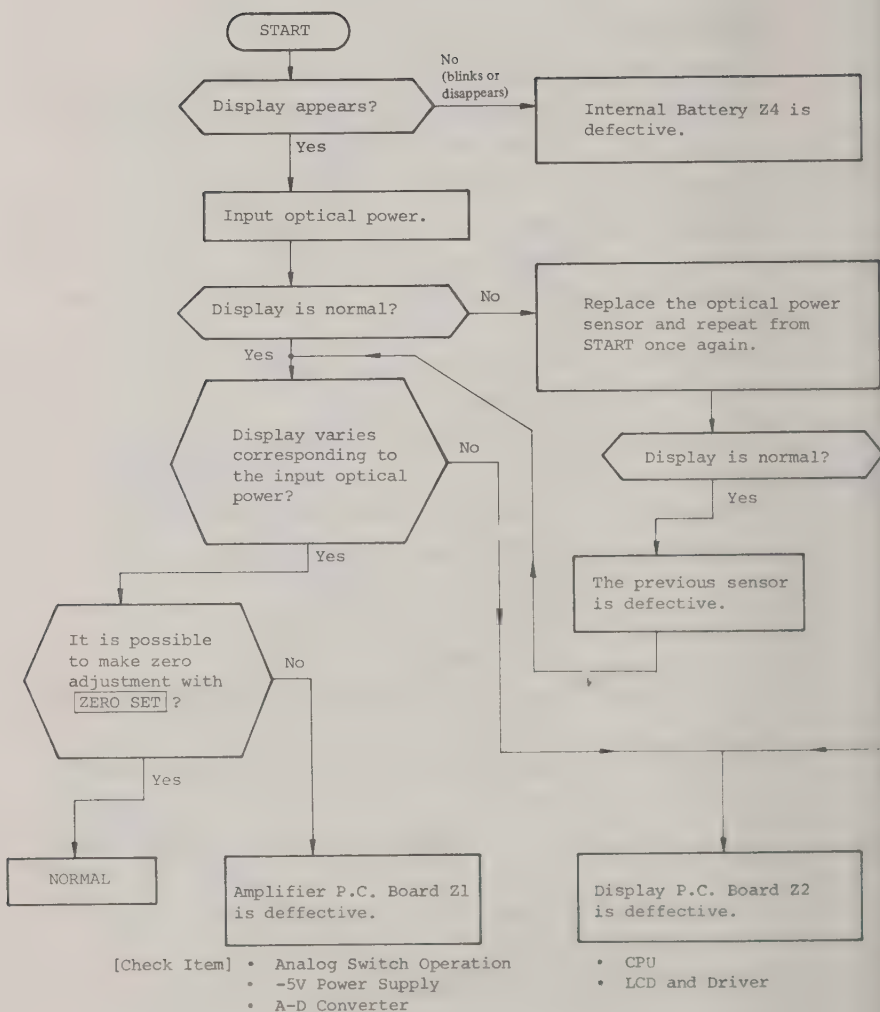
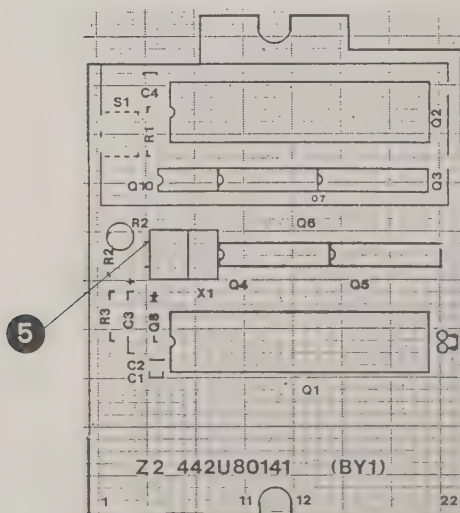

Fig. 6-2 Troubleshooting Flowchart
Fig. 6-7 Component Layout of
Find the defective printed circuit board by the procedure of the troubleshooting flowchart shown in Fig. 6-2, and repair it by reference to each printed circuit board's circuit diagram shown in Fig. 6-8, printed circuit board components layout shown in Fig. 6-5 and Fig. 6-7, and test point waveform shown in Fig. 6-4 and Fig. 6-6.
- Fig. 6-2 : Troubleshooting Flowchart to find the defective P.C. Board.
- Fig. 6-7 : Component Layout of Display P.C. Board Z2.